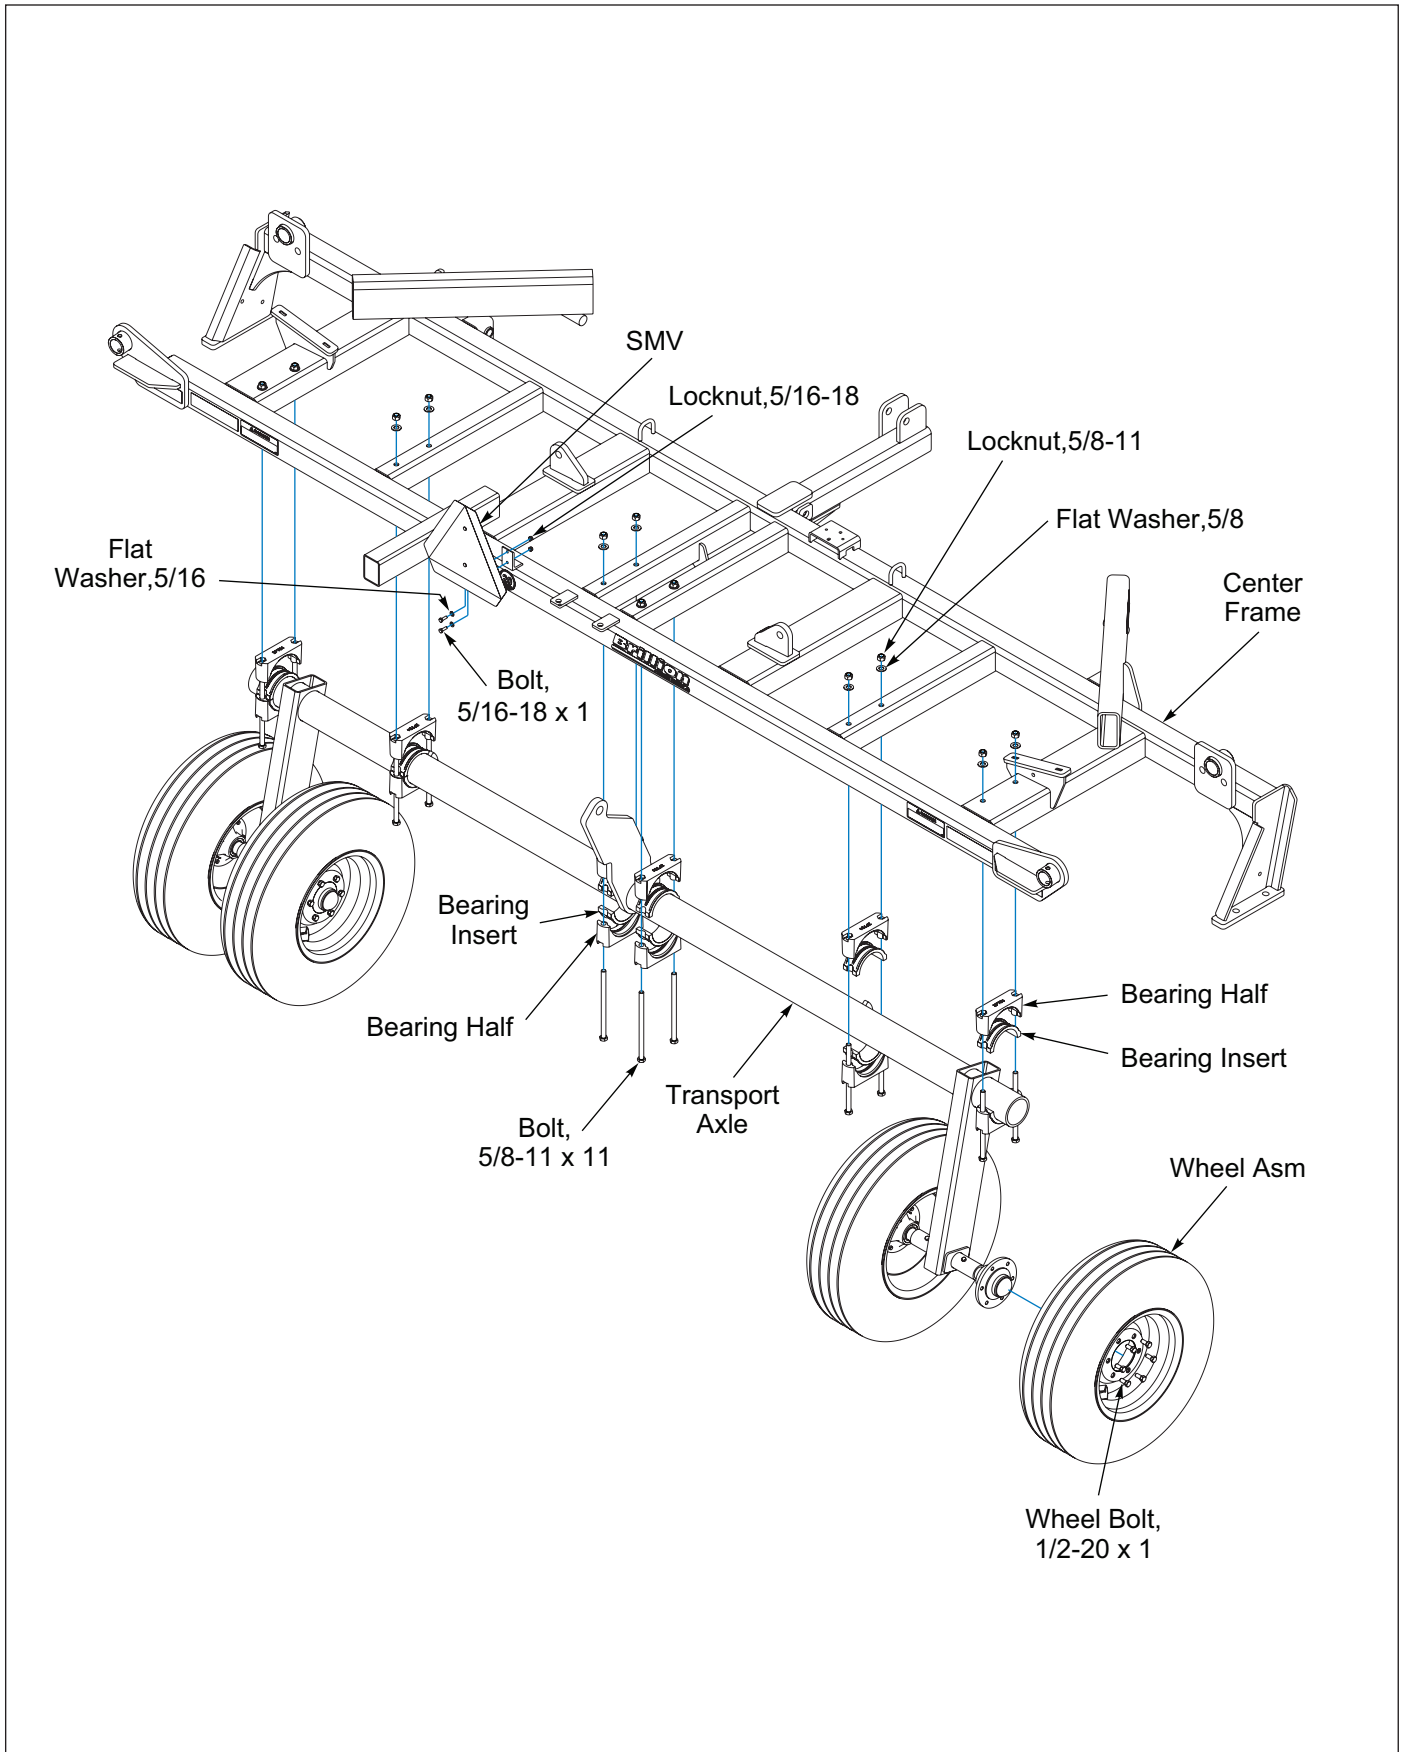

Figure 2-2: Frame and Transport Axle
1. Position the Transport Axle on a level surface under the designated frame assembly area. See **Figure 2-2**.